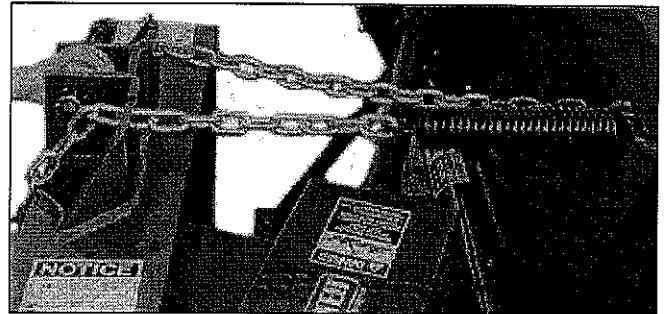

figure 8
12. Connect the transport chain, already attached to the brush frame upright, to the remaining slot in the chain holder on the mounting assembly. Figure 8 shows the transport chain fully installed.